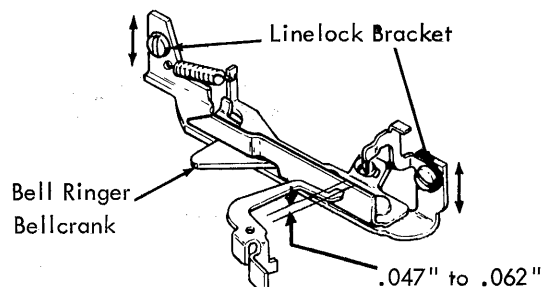

FIGURE 253A. Line Lock Bracket
7. Line Lock Bracket - Adjust the line lock bracket up or down so that the bellringer bellcrank will ride .047" to .062" from the bottom as the carrier moves into the line lock position (Fig. 253A).